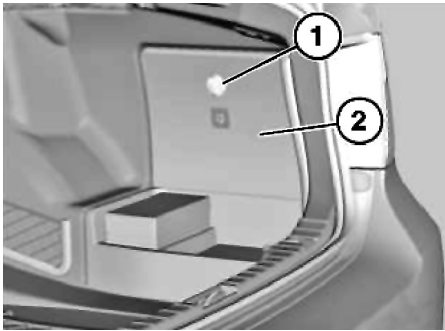

Fig. 1 Battery cover flap removal
- (2) in luggage compartment trim, and remove, **Fig. 1.**